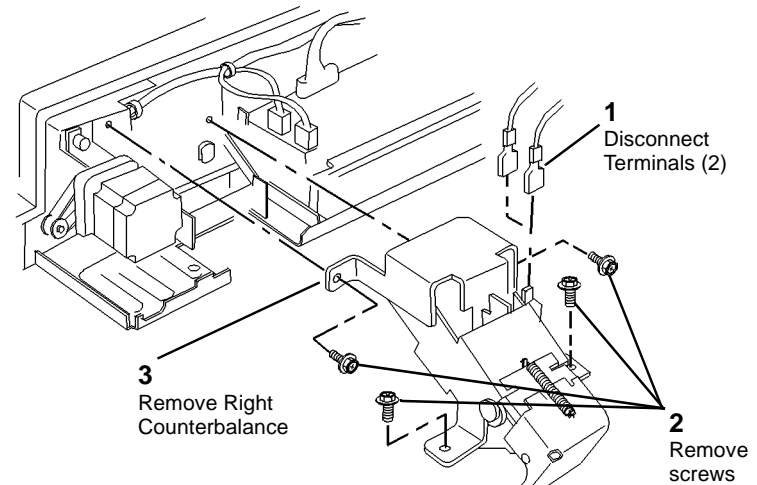

Figure 2 Removing Right Counterbalance
6. Remove Right Counterbalance (Figure 2).